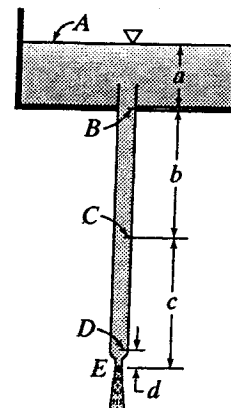

Figure X5.13.7
5.13.8 In Fig. X5.13.7 let $a = 7.5$ m, $b = c = 15$ m, and $d = 300$ mm. All the losses of energy are to be ignored when the stream discharging into the air at E has a diameter of 80 mm. What are pressure heads at B , C , and D if the diameter of the vertical pipe is 120 mm?